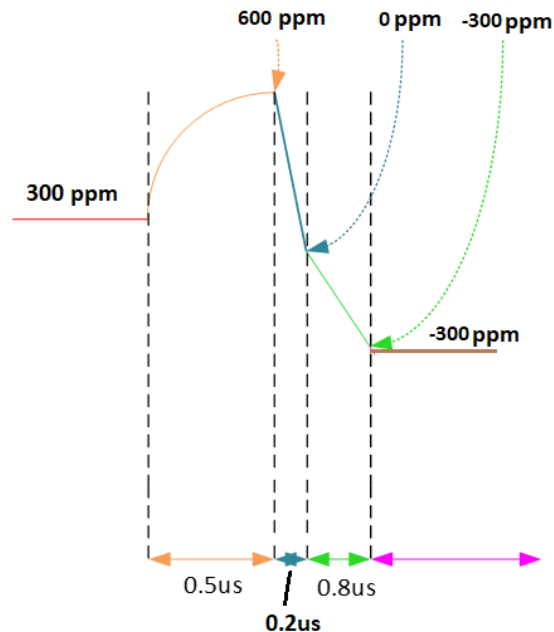

Figure 14b. Frequency variation dynamics
4. Construct the frequency variation dynamics as shown in Figure 14b. Refer to USB4 2.0 Specification Table 3-26. Tolerance is ± 25 ppm with respect to USB4 2.0 Specification targets